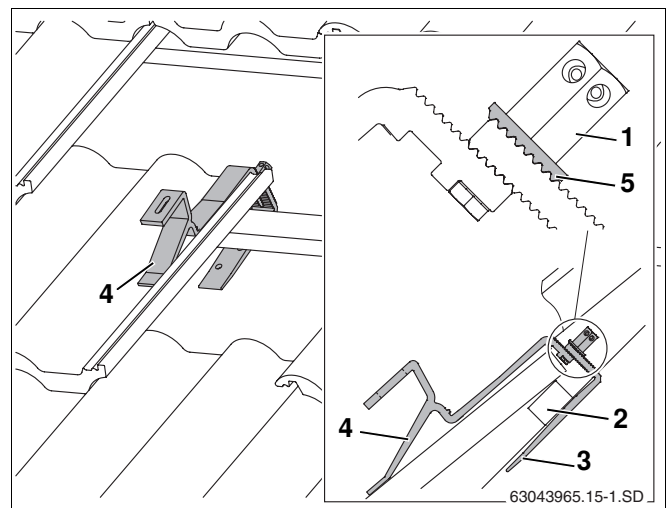

Fig. 12 Roof hook located in place (some tiles have been removed to show the example in more detail)
- Attach in the roof hook in such a way that the front brace lies in a tile trough (Fig. 12, **Item 4**).
- Push the lower part of roof hook (Fig. 12, **Item 3**) upwards until it touches the roof batten (Fig. 12, **Item 2**).
- Tighten the long hexagon nut (Fig. 12, **Item 1**). To do this, insert the size 5 Allen key into one of the holes in the hexagon nut and turn.
The serrated washer (Fig. 12, **Item 5**) must grip the teeth on the lower part of the roof hook.